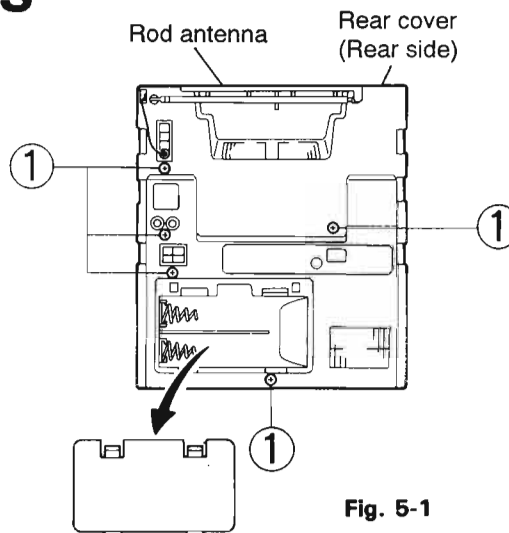

Fig. 5-1
■ How to Remove the Rear Cover (Refer to Figs. 5-1~5-4)
1. Remove the five screws (1) retaining the rear cover from the back of the body (Refer to Fig. 5-1).